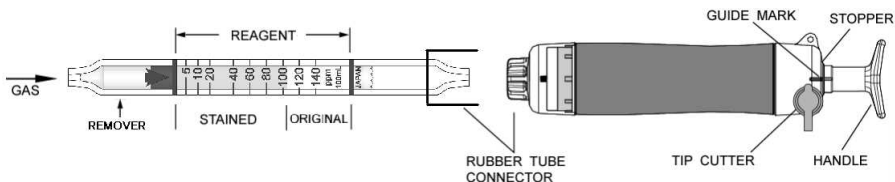

Fig.1
- ② Insert the detector tube into the aspirating pump securely as shown in Fig.1. (Arrow mark shall point to the pump.)
- ③ Align the guide marks on the shaft and stopper of the aspirating pump.
- ④ Pull the pump handle at a full stroke until it locks and wait for 1.5 minutes or until the completion of sampling is confirmed with the flow indicator of the pump (See descriptions about the flow indicator in the instruction manual of the pump).
- ⑤ On completion of sampling, read the scale at the maximum point of the stained layer.
- ① Temperature; Correct the tube reading by following temperature correction table.